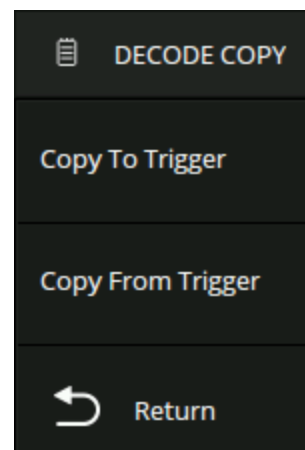

Figure 10.29
1. The **DECODE COPY** menu will be displayed. (Figure 10.29)